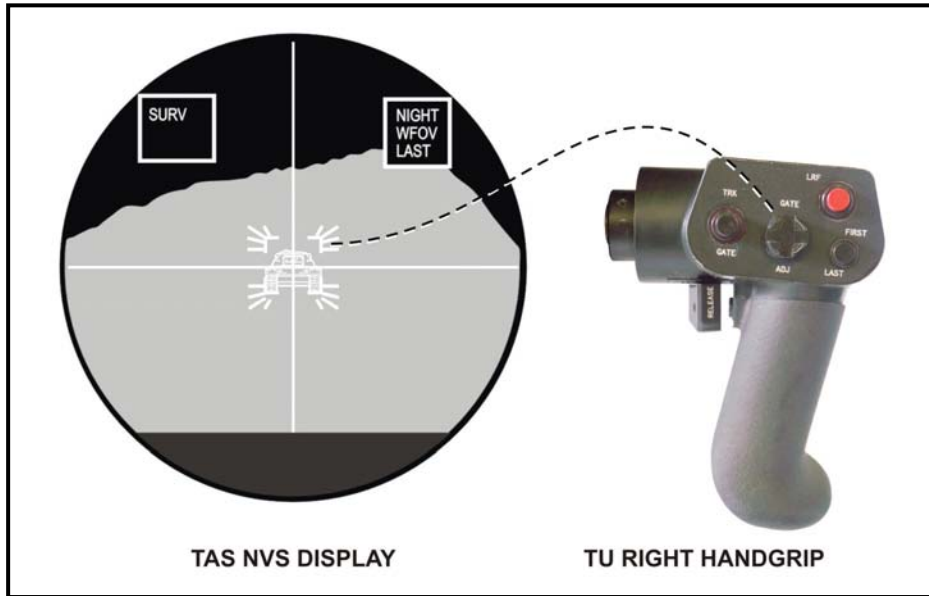

Figure 2-15. GATE ADJ switch and TAS display.
(2) *Gate Adjust Switch (GATE ADJ)*. The GATE ADJ switch is a self-centering, four-position switch (up and down, left and right) used to adjust the size of the track gates around the target during a tracker engagement, and to adjust the passive range box (Figure 2-15, page 2-10).